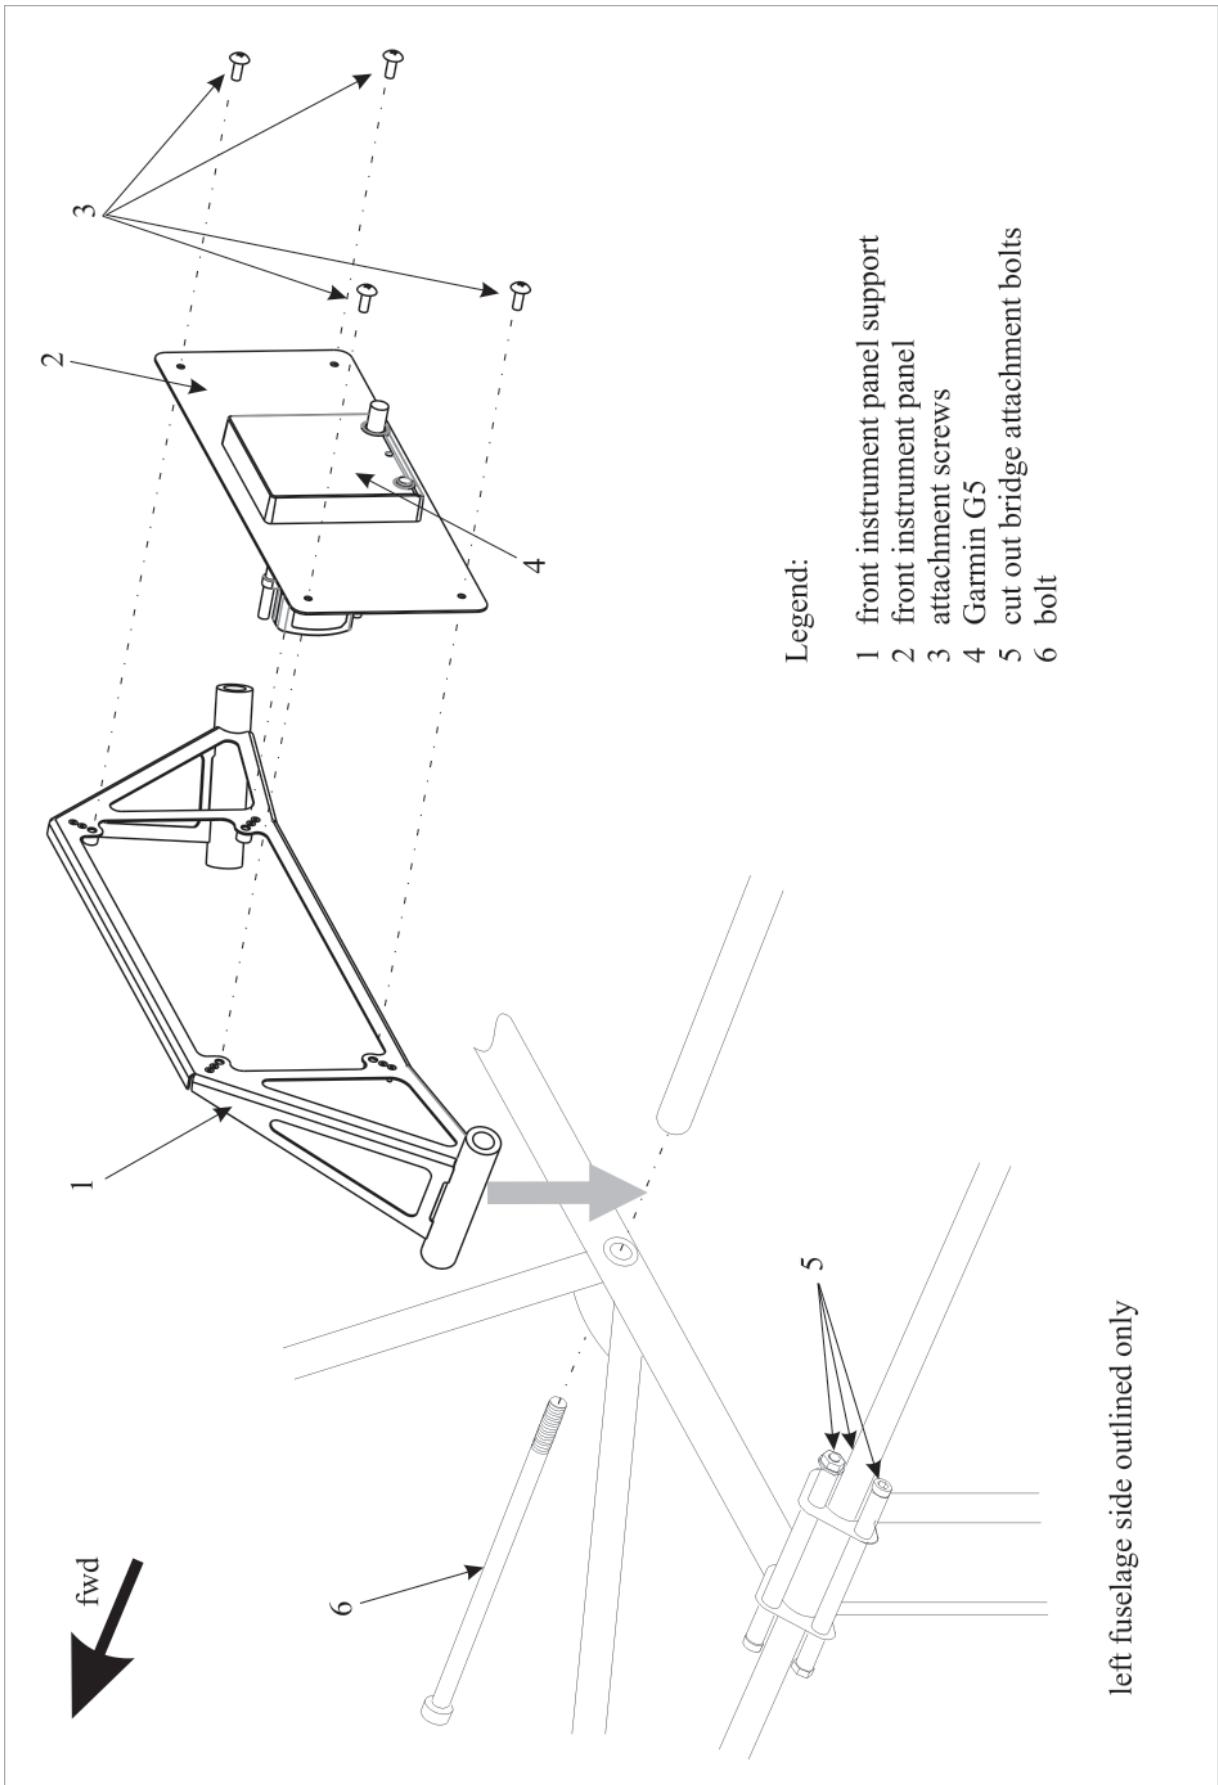

Figure 7
- 1 Remove the AN526 C-1032-R6 instrument panel attachment screws (3, Figure 7).
- 3 Disconnect the pitot resp. static lines from the Garmin G5 (4). Mark lines for later identification.
- 4 Remove instrument panel (2).
- 3 Hoist the aircraft front by means of both engine hoisting points just enough to relieve the bolts (5 and 6, Figure 7). Refer to Chapter 07-20-01.
- 4 Loosen the cutout bridge attachment bolts (5) on each fuselage side. Turn maximum 2 rotations.
- 5 Remove DIN 912 M12x220 bolts (6).
- 6 Remove front instrument panel support (1).